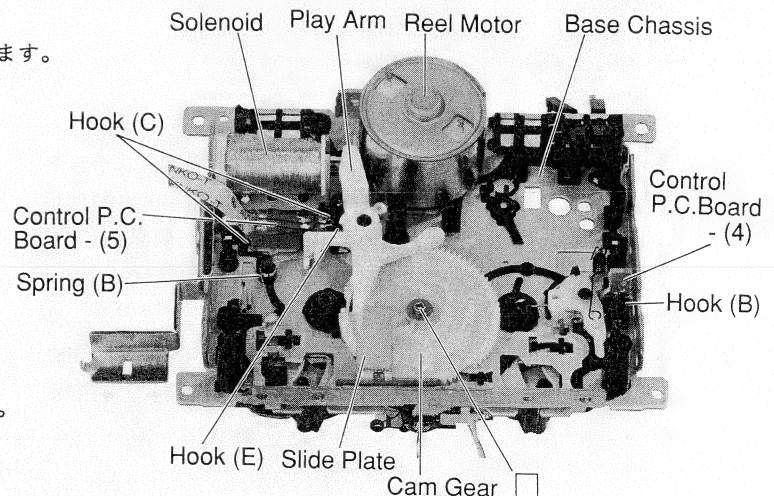

Figure 19
- (3) Remove a spring (B) as shown in Figure 19.
- (4) Remove the play arm by removing a hook (E) as shown in Figure 19.
- (5) Remove the slide plate with cam gear as shown in Figure 19.